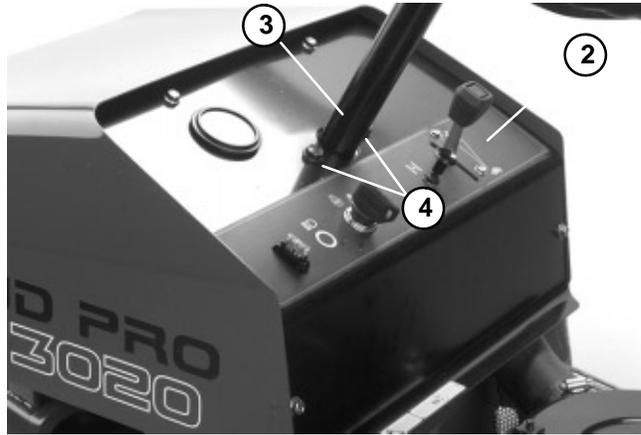

Figure 16
8. Remove both hex flange head screws securing the dash panel to the steering post (Fig. 16).
2. Secure dash panel to the steering post with both hex flange head screws (Fig. 16).